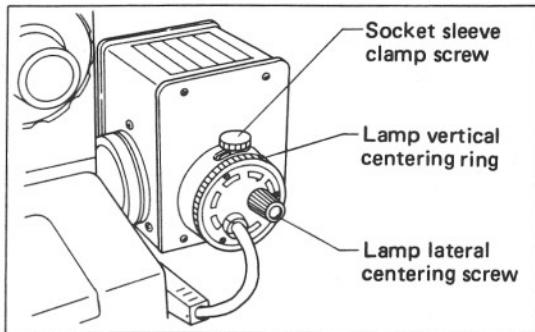
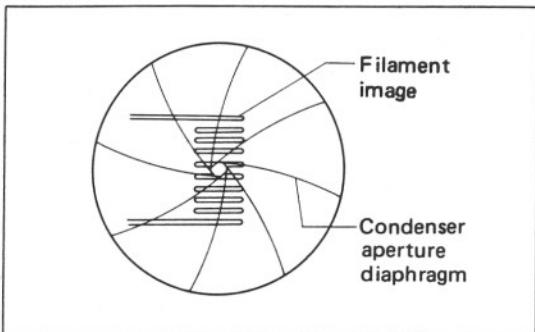

Fig. 7
Fig. 8
- 9) Release the socket sleeve clamp screw (Fig. 7). Turning the lamp lateral centering screw and vertical centering ring, bring the filament image to the center, as shown in Fig. 8.